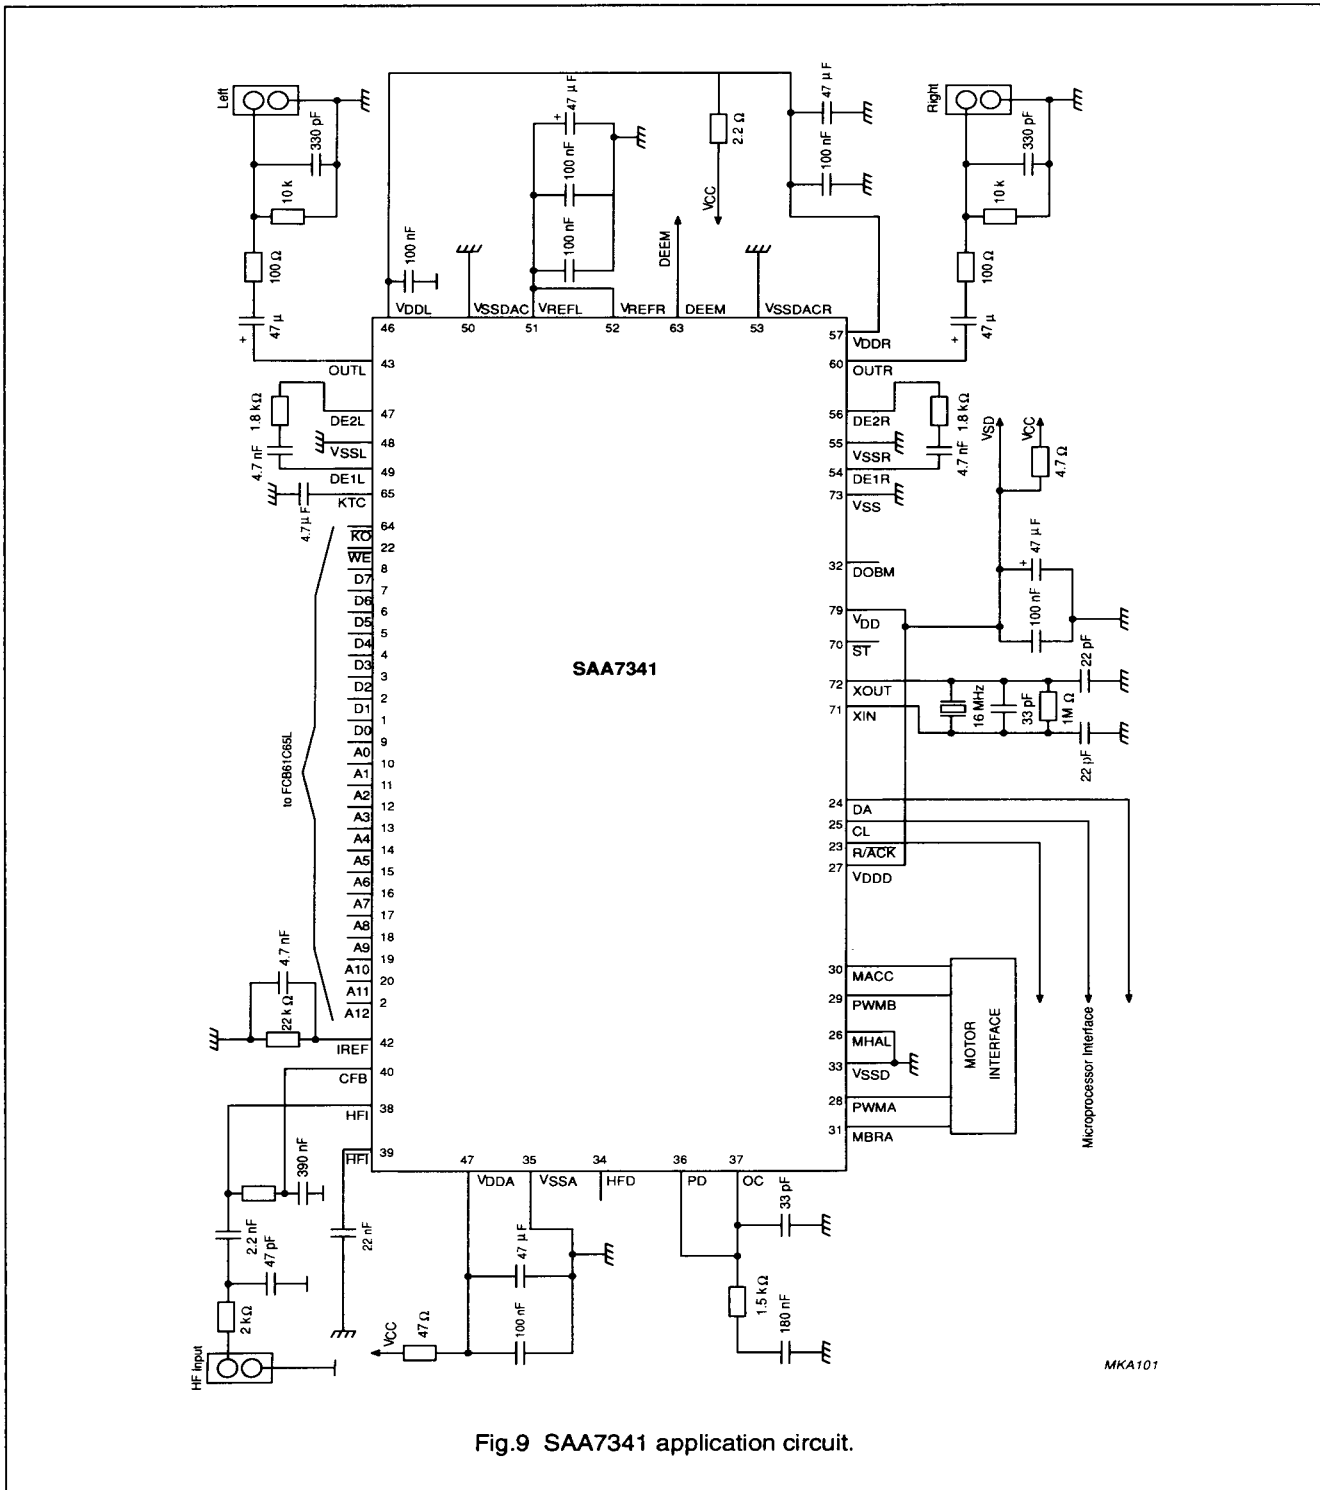

Fig.9 SAA7341 application circuit.
2. Maximum load recommended on OUTL, OUTF, is 5 k Ω , 100 pF. Device measured with external components shown in recommended application diagram (Fig.9). Maximum digital code.